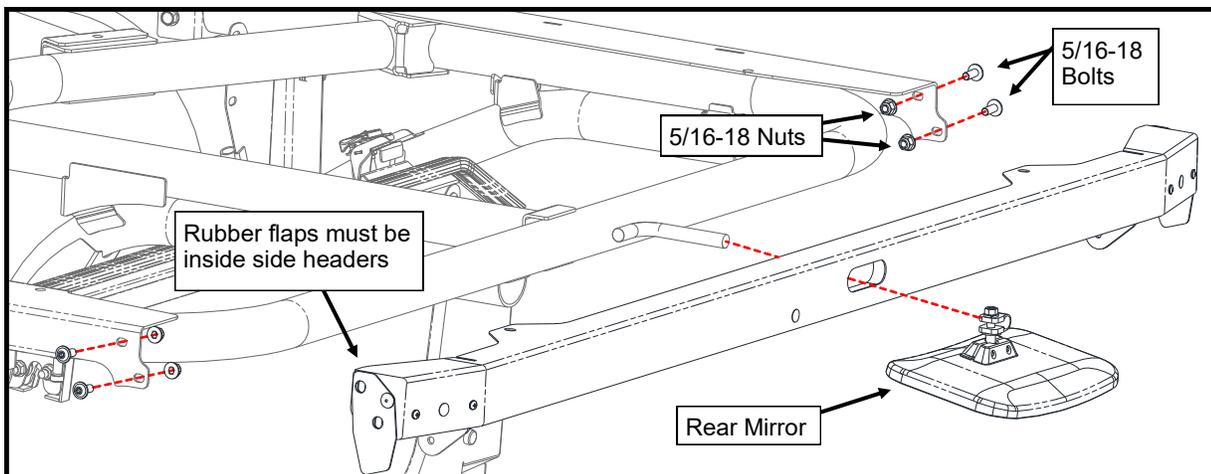

Figure 8.5: Rear header
- 8.5 Loosen the bolt in the mirror mount on the ROPS and remove the rear mirror (see Figure 8.5).